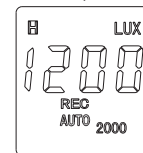

Fig.6
6. Data automatic recording. First press **REC**, then hold the first press and press **MODE** at the same time to start the automatic recording function. Sign "AUTO" will light to set the range automatically. Then the sign "REC" and " " will both flicker in the LCD (Fig.6). It shows in the delay stage of the data recording, the delay time based on the time set before (1~60 seconds optional). When the sign " " stops flickering but the sign "REC" flickering,